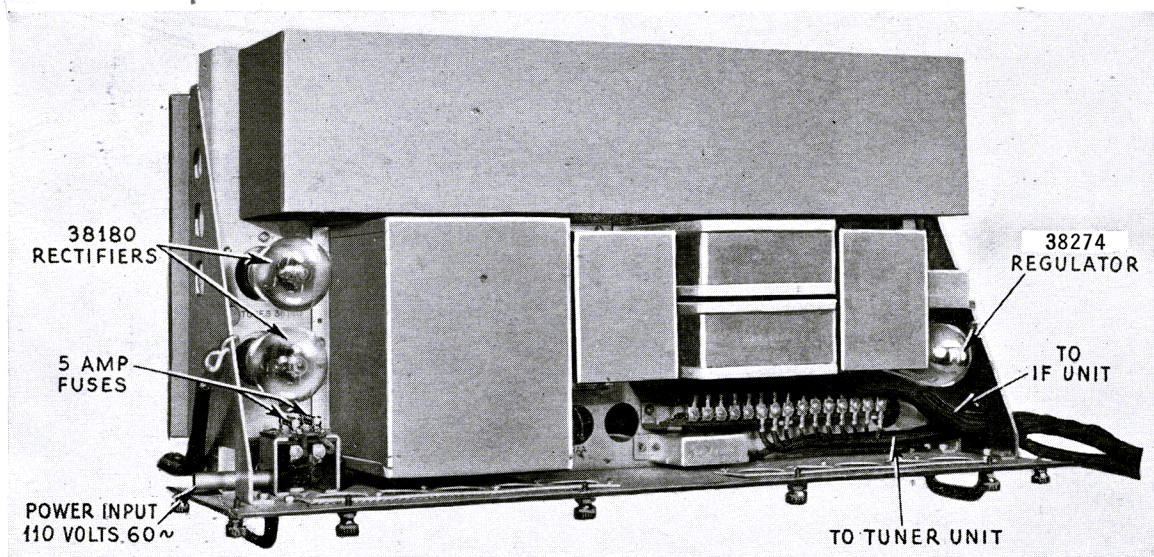

Figure 6—Power Unit CRV-20016
- 5.1-3 *Power Unit* (See Figures 6, 7 and 8).
- 5.1-3.3 Access to the power unit tubes is effected by partly withdrawing the chassis from the cabinet and tilting downward. A stop and supporting chains are provided to hold the chassis in this position while tubes are inserted as shown in Figure 6.
7.4-1 Connect a shielded twisted pair (not smaller than No. 14 B. & S.) from the power supply junction box to the terminals located at the extreme left just in back of the panel. See Figure 6. Insert the leads through the tubing provided, and solder to the spade terminals. Securely tighten the screws holding the terminals.
8.1-1 Figure 6 shows the tube locations in the Power Unit. Insert two Type 38180 tubes in the sockets on the left (facing the panel) and one Type 38274 in the socket on the right.